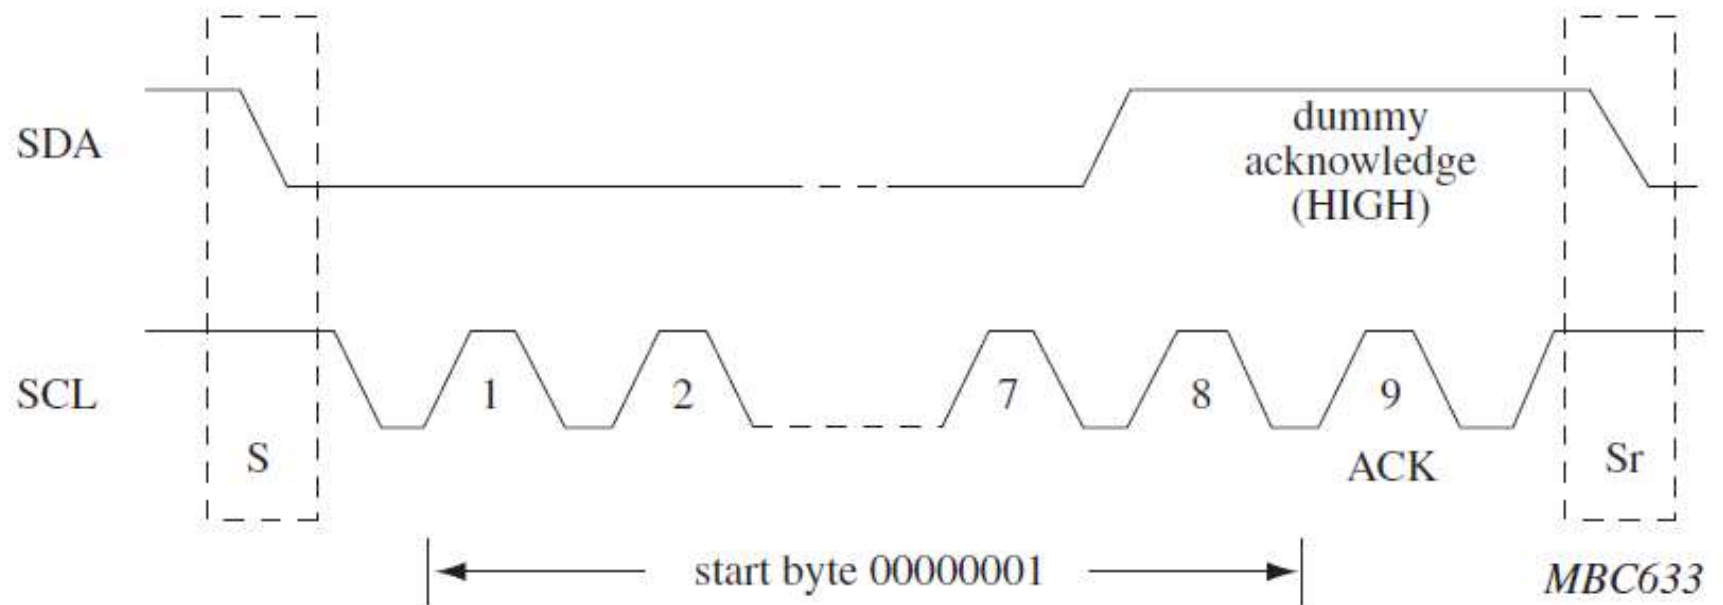

Figure 5: I²C data transfer example
- An example of byte “00000001” transfer is shown in Figure 5